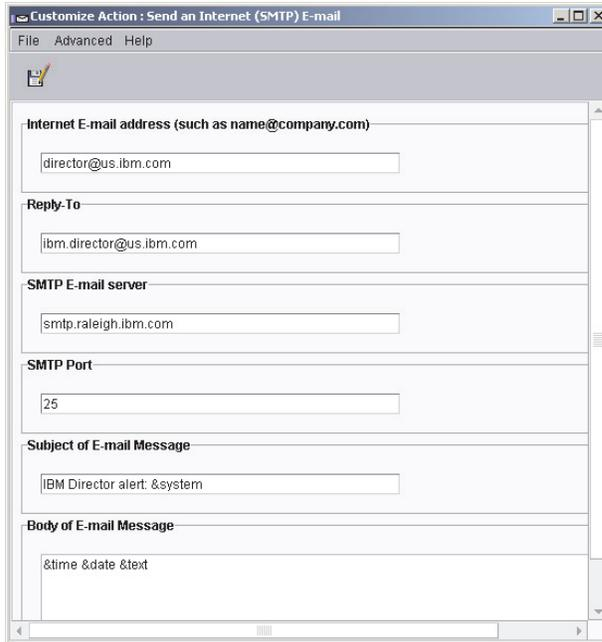

Figure 112. “Customize Action” window displaying example values
2. Complete the fields. See Figure 112 for example values.